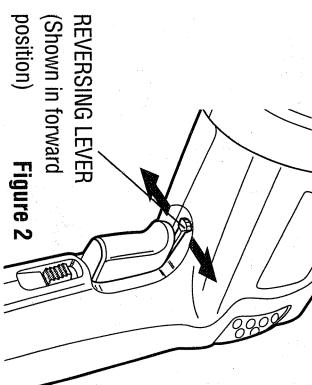

Figure 2
**THE REVERSING LEVER** is used when backing out screws. To operate the tool in reverse, release the trigger switch and push the lever to the left (when viewed from the front end), as shown in Figure 2. To operate the tool in forward for driving screws, release the trigger switch and push the lever to the right (when viewed from the front end).